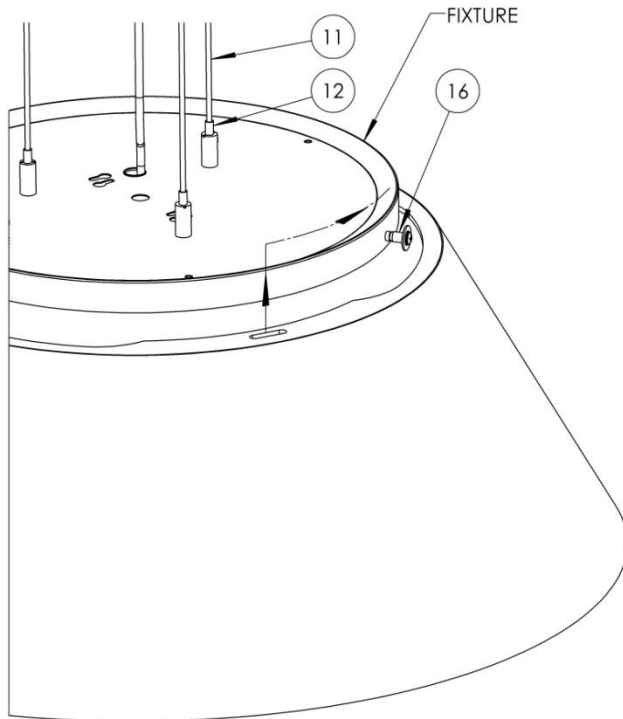

FIG 3
- Feed three aircraft cables (11) to the connectors (12) that are mounted on the pan. Insert the cable by pressing the "Spring Pin" (12) (Fig. 3) downward and holding until it comes out at the other end. Repeat these steps for the other cables.
6. Mounting Diffuser (Fig 3 & 4)
- A. The diffuser (15) has three notches in its upper flange. Align these notches with the mounting standoffs, (16) (Fig 3) on the outside of the ceiling pan, and push the diffuser up against the ceiling.